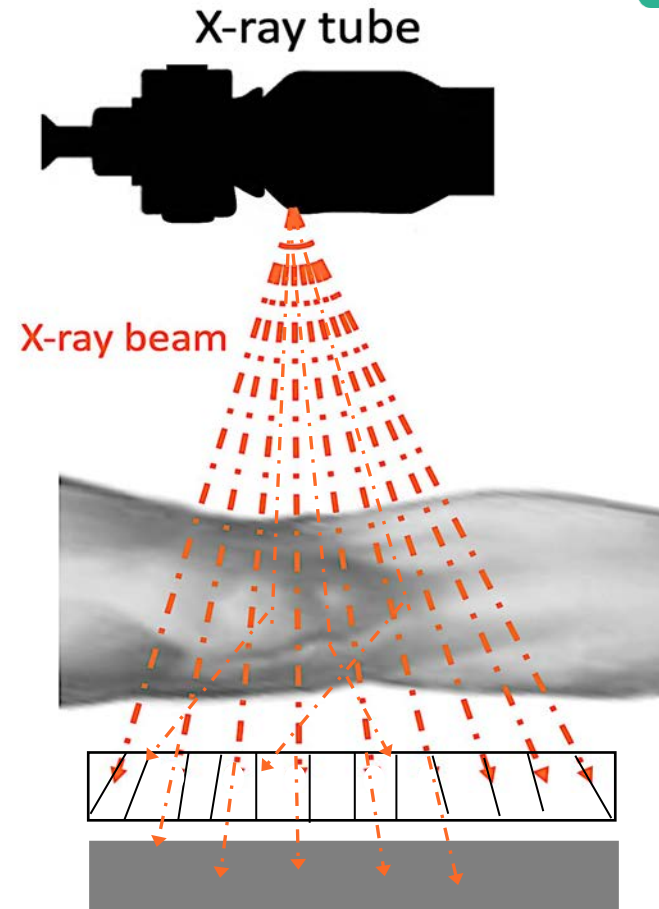

Fig. 14 – Scatter rejection in front of the detector
- The atom's electron cloud in the scattering atom oscillates in phase and immediately radiates this energy, emitting a scattered X-ray of the same energy but in a slightly different direction (Fig. 14).
Anti-scatter grid (Fig. 14)